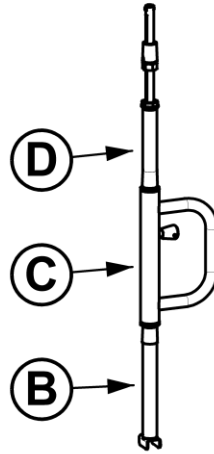

FIGURE 3
3. Stack parts beginning with Base Tube **B** as shown in *FIGURE 3*.